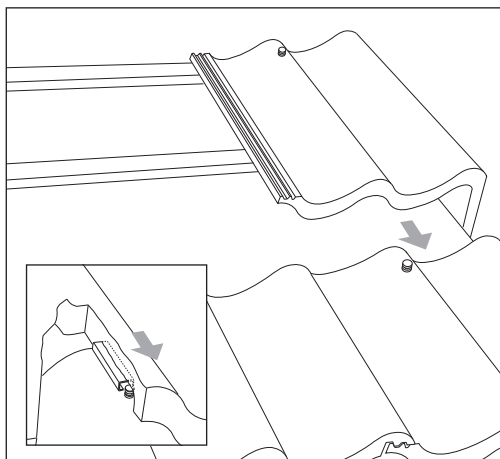

Fig 5 Slide next unit down
- 12 Lay next cloak verge unit in a similar manner, by sliding it down so that embedded PVC channel locates over nylon spacer unit and tile nibs are in contact with tiling battens (Fig 5).